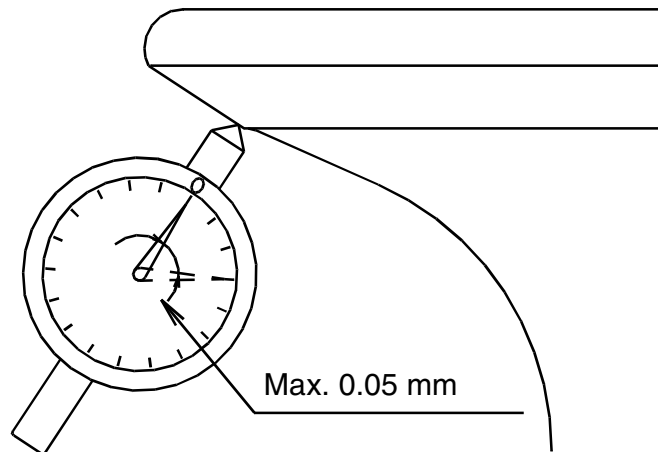

Fig. 5: Truing-up the spindle
- Mount the spindle in the grinding machine and, using the dial-gauge positioned just inside the area of inner contact, (see Fig. 5), true-up to within a maximum of 0.05 mm. This is done in order to minimize the amount of material removed during grinding.